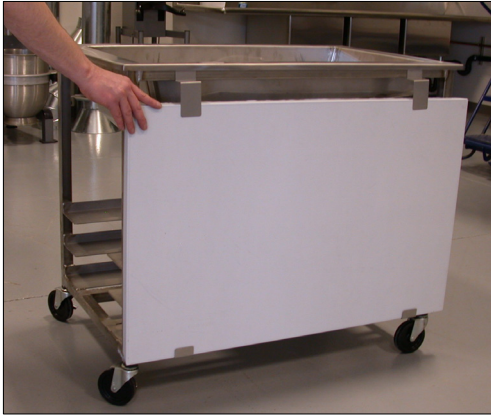

Figure 8, Kettle Cover installed on side of glazer
4. Install the Kettle Cover on the side of the Glazer (Figure 8).